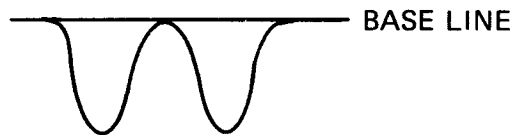

Figure 3-18. Transmitter Output R-F Envelope
Step 2. With radio set fully operative, observe transmitter r-f envelope on oscilloscope. It should appear as shown in figure 3-18. Note that gain, sweep speed, and trigger selection controls on oscilloscope are automatically set as required for this test by internal controls associated with position 1, OPERATING TEST, of FUNCTION switch. Adjust-
Step 5. While observing pulse envelope on oscilloscope (figure 3-18), turn PEAK PWR VOLTAGE control clockwise until negative pulses just touch baseline. At this point, stop advancing control and read r-f power directly in kilowatts on PEAK RF POWER meter. Release RF POWER switch. A reading of 7.0 kw or more is considered normal. If this requirement is not met, report trouble to technical personnel.
(3) VISUAL PULSE SHAPE.
Step 2. With the radio set fully operative, observe r-f envelope on oscilloscope; it should appear as shown in figure 3-18.
(4) OUTPUT PULSE COUNT.
(5) OUTPUT PULSE SPECTRUM TEST.—The built-in test equipment includes a sharply tuned relative power meter (analyzer portion of TS-890A/URN-3) which is used to compare sideband energy with center frequency energy for an accurate check of pulse shape. The test equipment is highly specialized for this purpose. The test is made with the beacon operating under normal traffic conditions. Proceed as follows: